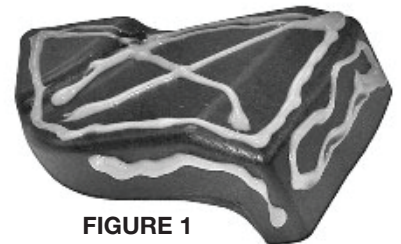

FIGURE 1
4. See **Figure 1**. Place oil deflector (cover side up) on a clean protected surface. Apply adhesive: